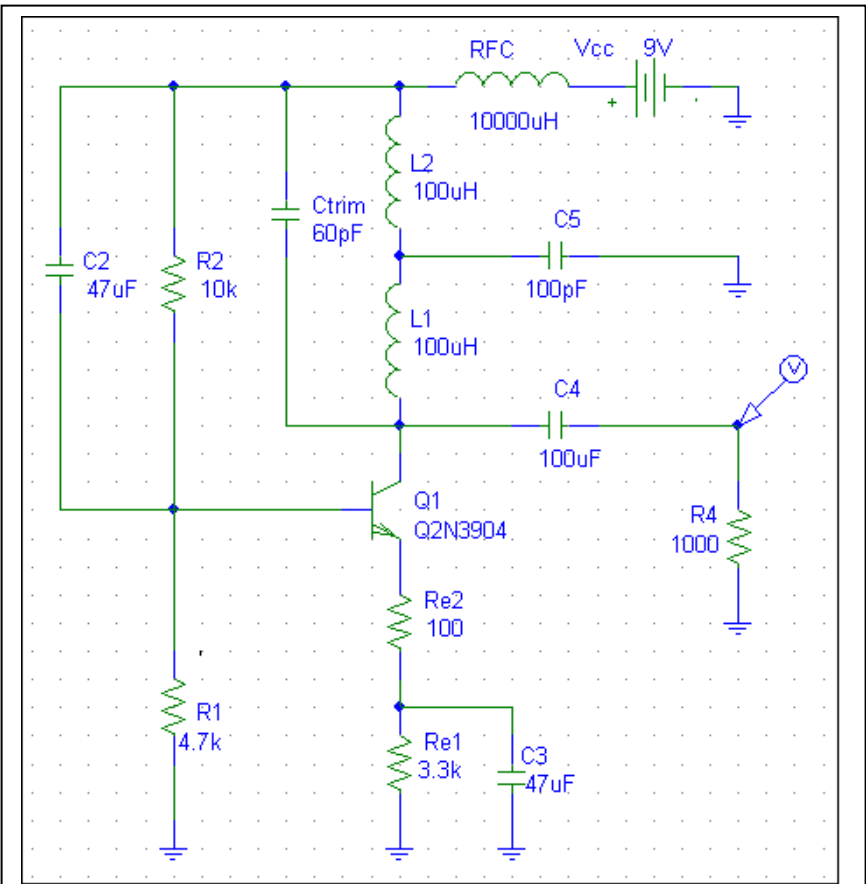

Figure 9.2: an altered hardware implementation of the oscillator circuit to reduce the loop gain and create a smoother sine wave
3. Tinker with your circuit and see if you can improve its performance. For instance, the frequency range on the default circuit may be inadequate for your radio. Recall that your bandpass filter is set up for a difference frequency of about 200 kHz. Is your oscillator range sufficient to achieve a 200 kHz difference frequency on all of the AM stations you wish to receive? One possible configuration for your oscillator is shown in Figure 9.2. This circuit has been designed for less loop gain. (note: I've had a higher quality output with $Re2 = 300 \Omega$ and $Re1 = 3 k\Omega$).